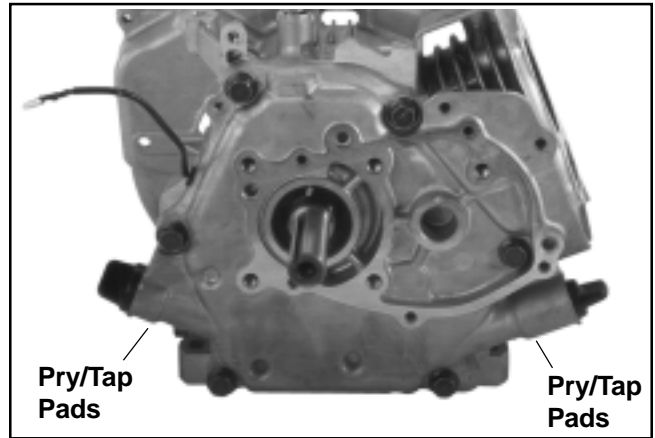

Figure 9-74. CS4, CS6 Closure Plate Mounting Screws.
1. Remove the hex. flange screws securing the closure plate to the crankcase (six on CS4 and CS6; eight on CS8.5-CS12). See Figures 9-74 and 9-75.
2. Locate the pry/tap pads on the closure plate. See Figures 9-74 and 9-75. These areas permit separation of the closure plate from the crankcase with a flat screwdriver or by tapping lightly with a plastic hammer.